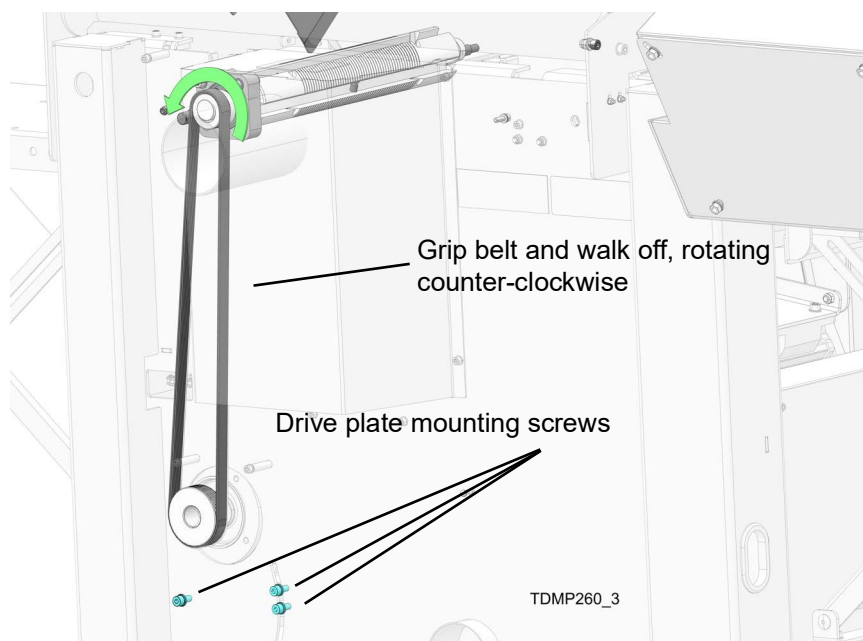

**FIG. 4**
2. Carefully slide drive assembly off of shaft and place on sturdy surface. See FIG 4.